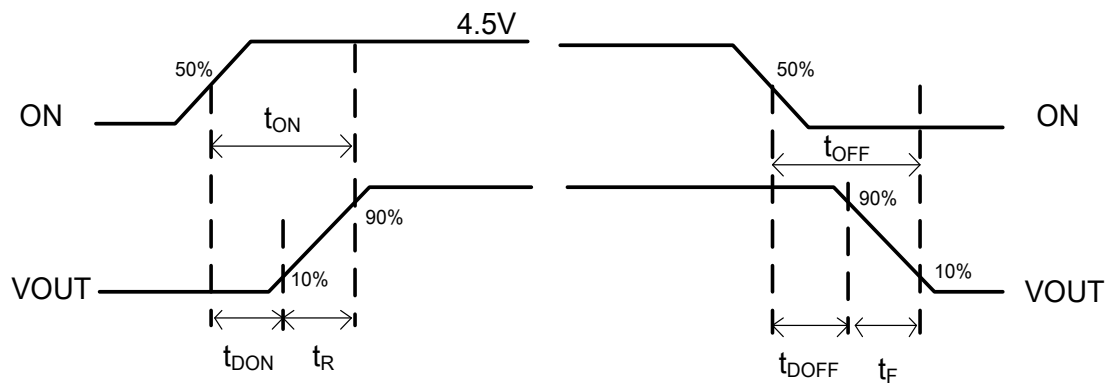

Figure 3. Timing Diagram
3. $t_{DON} / t_{DOFF} / t_R / t_F$ are defined in Figure 3.